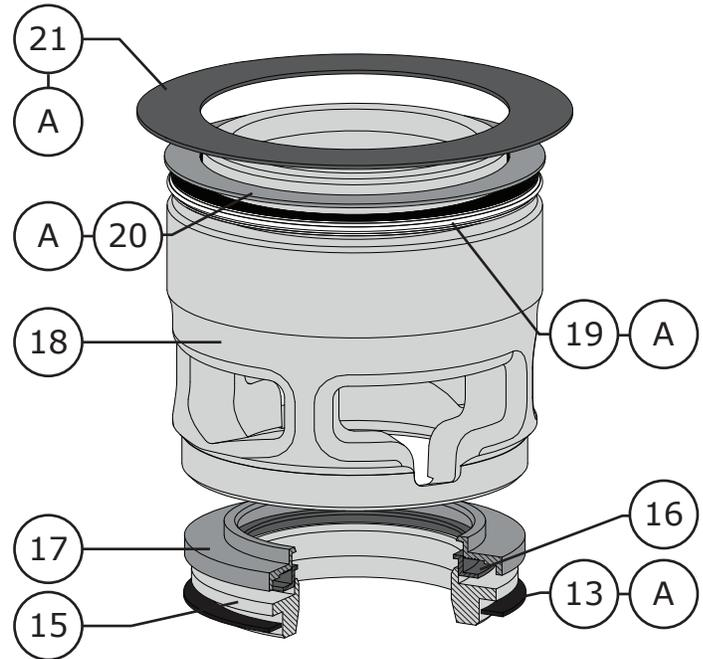

Figure 11 Soft Seat Parts Removal
- 4 Remove the seat ring (Key 14) and seat ring gasket (Key 13). **For Soft Seat valves:** Remove the disk retainer (Key 17), PTFE disk (Key 16), disk seat (Key 15), and seat ring gasket (Key 13). Refer to Figure 11.